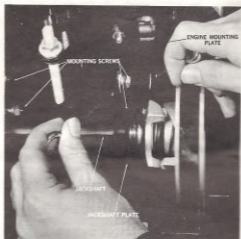

Figure 10
1. Loosen, **DO NOT** remove, (4) screws mounting jackshaft plate to engine mounting plate. (See Fig. 10)